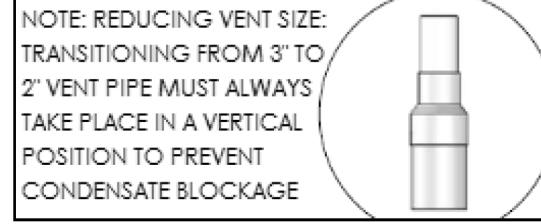

Figure 24 - Transitioning from 3" to 2" Vent Pipe
- For 2" installations, install the reducing coupling in a vertical section of pipe. At least a 6" length of 3" pipe MUST BE INSTALLED before reducing to 2". See Figure 24.